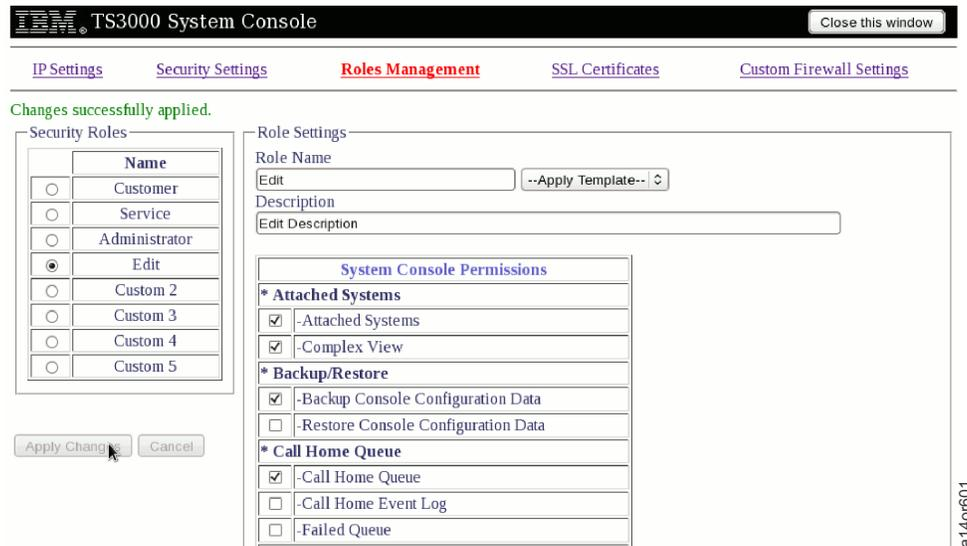

Figure 110. Customize Role
5. Click the **Apply Changes** button for the changes to take affect. A message will show if the changes were applied successfully. See Figure 110.